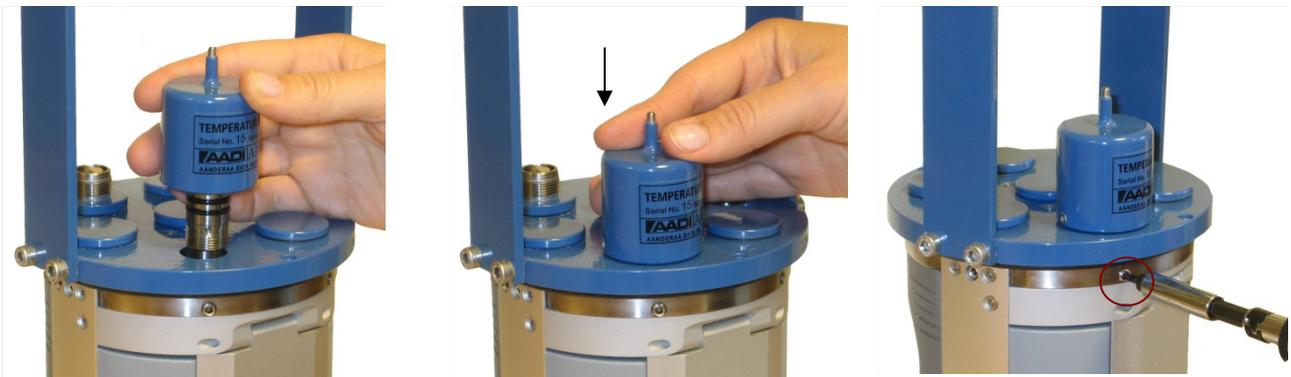

Figure7-11 AiCaP sensors: Place the sensor according to the orientation pin. Push down the sensor and fasten the set screw.
3. Loosen the set screw that goes with the sensor position; refer **Figure7-11**, rightmost illustration. Do not unscrew the set screw completely and remove it, as it might be lost.
- b. AiCaP sensor in position 1,2,3,4,5: Gently push down the sensor, refer **Figure7-11**. Ensure that the red dip switch on the HUB is in *off* position, refer **Figure7-9**.
4. Disconnect the upper battery, refer procedure on **Figure7-11**, unscrew and remove the two screws that hold the top front cover. Remove the top front cover. Follow option a or b depending on the type of sensor to disconnect/the sensor position on the Top-end plate :